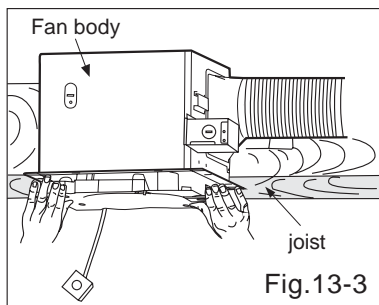

Fig.13-3
7. Insert the blower into the fan body. (Fig.13-3)